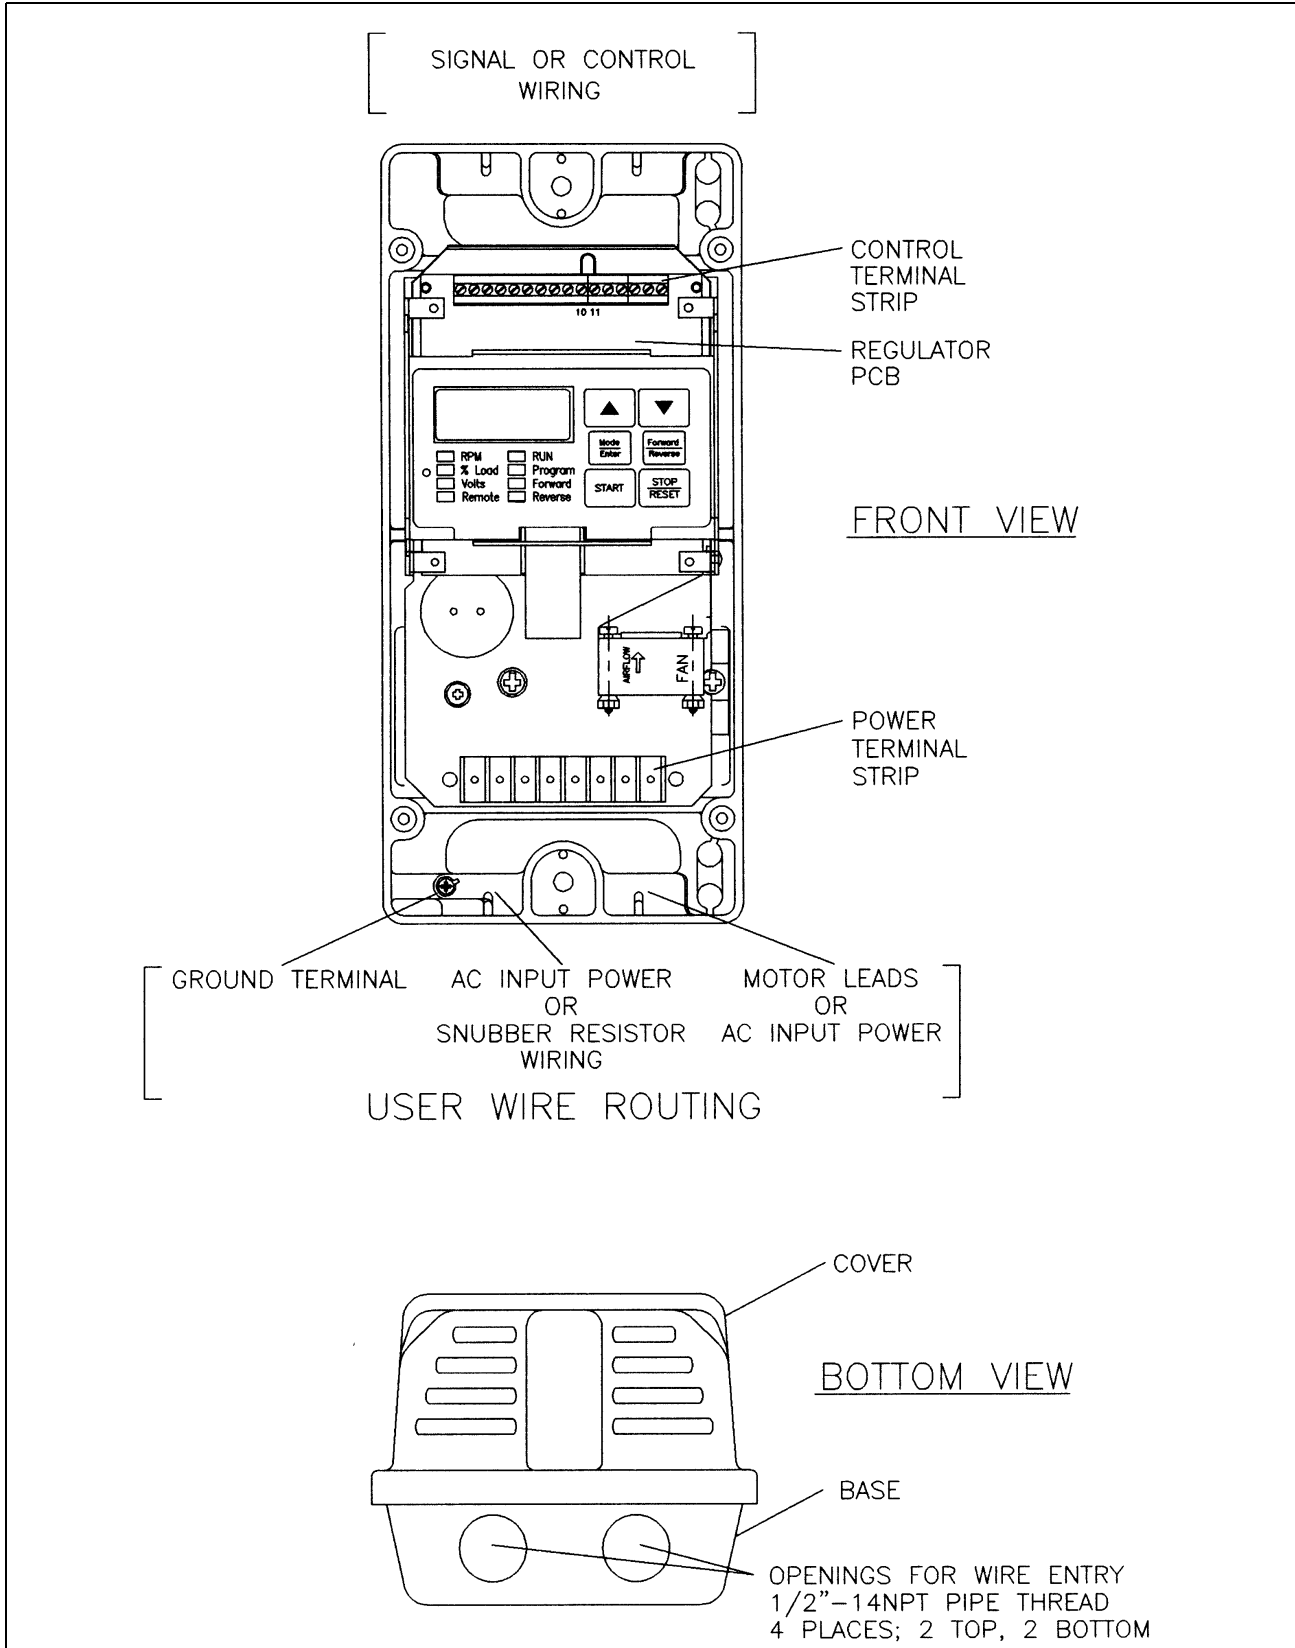

Figure 4.1 – Enclosure A Wire Routing Locations
All wiring should be installed in conformance with the applicable local, national, and international codes (e.g., NEC/CEC). Signal wiring, control wiring, and power wiring must be routed in separate conduits to prevent interference with drive operation. Do not route wires behind the drive. Use grommets when hubs are not provided to guard against wire chafing. Figures 4.1 through 4.4 show the wire routing, grounding terminal, and power terminal strips of the SP500 drives.
- Step 2. Wire the AC input power leads by routing them according to the type of enclosure. See figures 4.1 through 4.4. See tables 3.2 through 3.4 for recommended wire sizes.